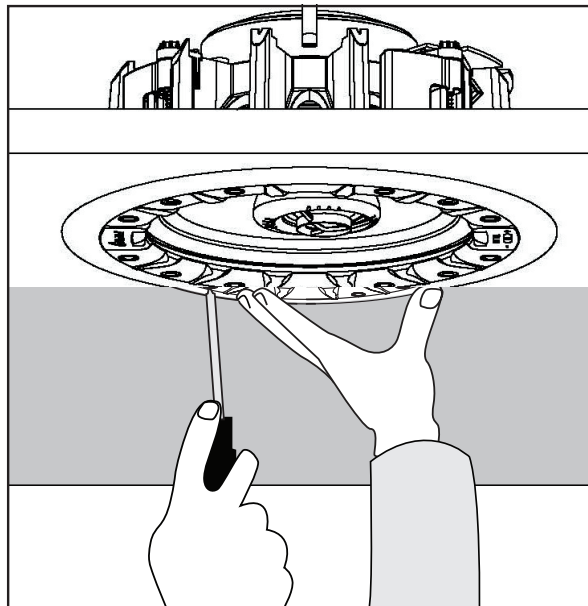

Figure 6
9. Holding the speaker's front lip with your thumbs and index fingers, carefully slip the speaker into the cutout and hold firmly in place. (Figure 6).